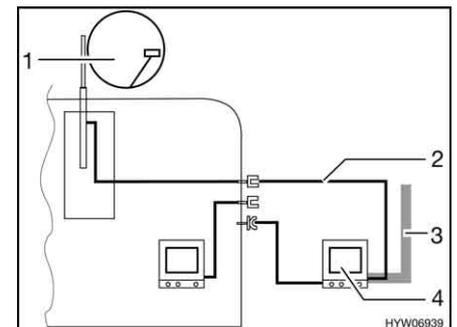

Fig. 179 TV in the awning
- TV inside the awning (Fig. 179,4): Connection to roof antenna (Fig. 179,1) with connection cable (Fig. 179,2)
- TV inside the awning (Fig. 179,4): Connection to external antenna (Fig. 179,3)